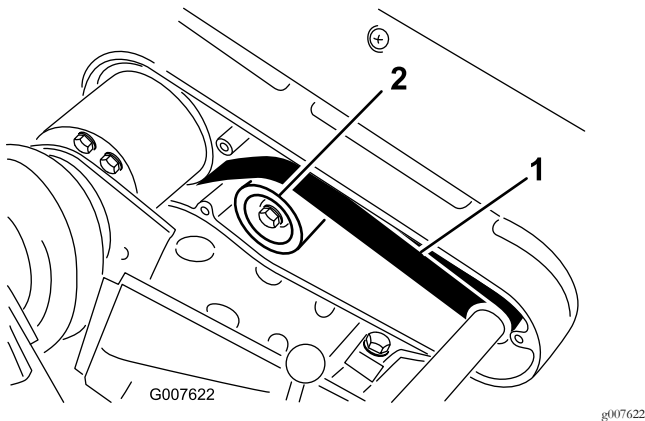

Figure 39
2. Check the tension by pressing the belt at mid span of the pulleys (Figure 39) with 22 to 26 N (5 to 6 lb) of force.
- A. Loosen the idler pulley mounting nut and pivot the idler pulley clockwise against the backside of the belt until the desired belt tension is attained (Figure 39).